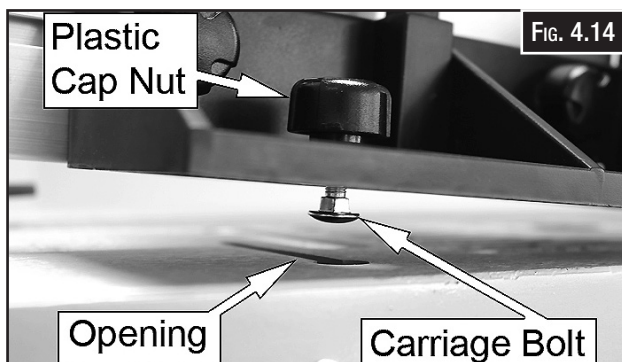

FIG. 4.14
1. Fix the 2 plastic cap screws into the grooves in the fence using the washers and carriage bolts as shown in Fig. 4.14.